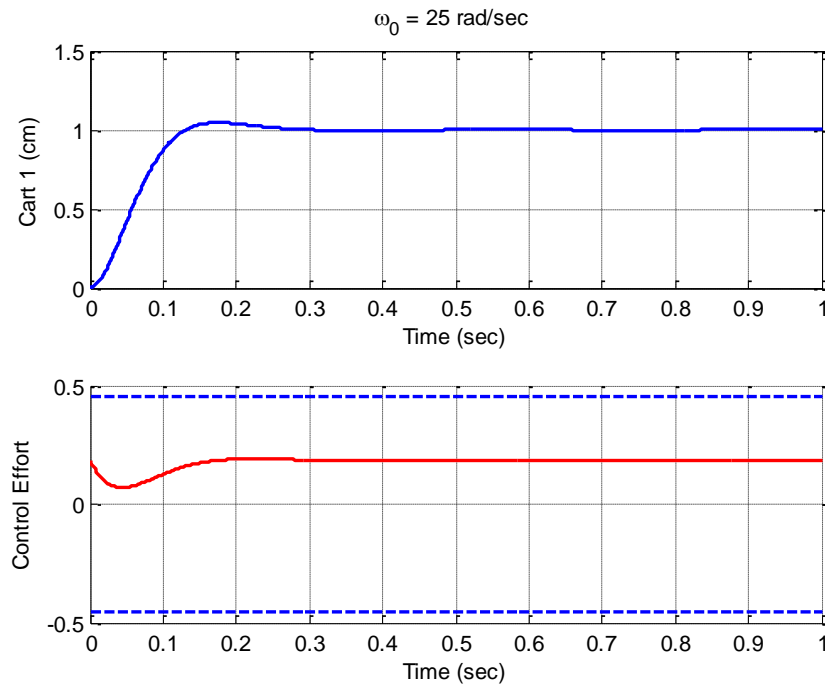

Figure 2: Closed Loop Driver Simulation Results
4. Use the *second order zero position error ITAE system* and vary ω_o until you meet the design specifications with the simulation (**closedloop_driver.m**). This means to uncomment the MATLAB code with this transfer function (Go) and comment out the rest. Note that the larger the value of ω_o , the faster your system will respond and the closer your model will predict the response of the real system. At this point all of the variables you should need are in your current MATLAB workspace. You should run the simulation until the system is clearly at a steady state value for at least one second. Be sure you do not reach the limiter on the control effort. When the control effort saturates, this is where the motor must provide more torque than it can produce. This is to be avoided at all costs! Figure 2 presents an example of a simulation output from the closed loop driver.